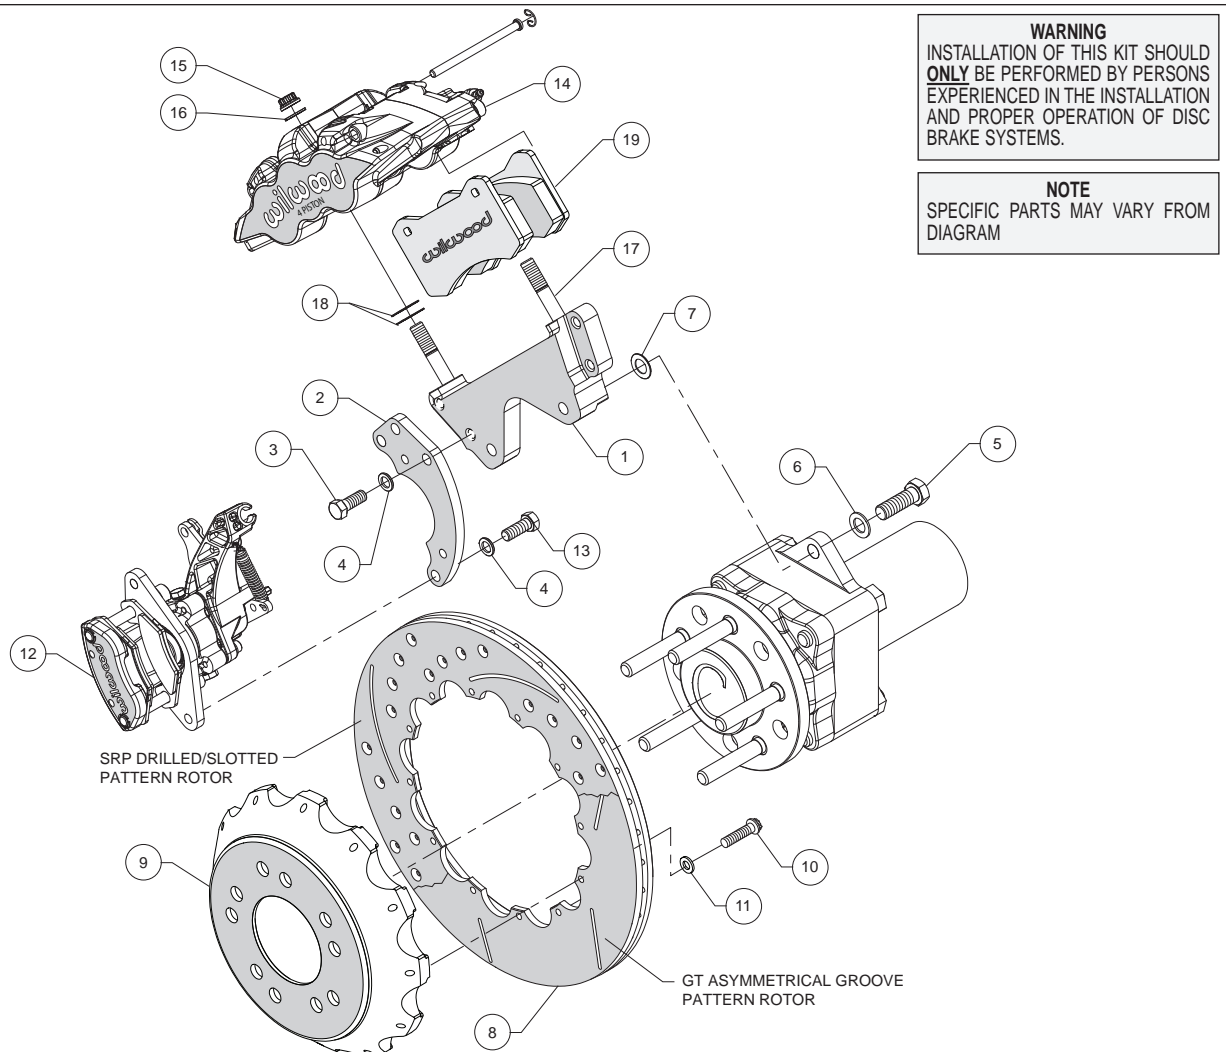
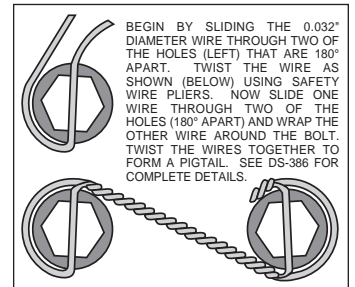

Figure 1. Typical Installation Configuration
Figure 3. Safety Wire Diagram
**Assembly Instructions** (numbers in parenthesis refer to the parts list and Figure 1 on the preceding pages):
- Attach the MC4 flat caliper bracket (2) to the radial mount caliper bracket (1) using bolts (3) and washers (4) as shown in Figure 1 and Photo 1. Apply red *Loctite*® 271 to the bolt threads and torque to 35 ft-lbs. **NOTE:** *The MC4 Bracket may be mounted on either end of the radial mount bracket.*
- The caliper mount bracket assembly (1/2) should initially be installed with clean, dry threads on the mounting bolts. Orient the bracket assembly as shown in Figure 1, and Photo 2, and install using bolts (5) and washers (6). Initially place one .032" thick shim (7) on each bolt between the bracket and axle hub, Figure 1. Temporarily tighten the mounting bolts. **NOTE:** *The bracket must fit squarely against the mount bosses on the axle hub.* Inspect for interference from casting irregularities, machining ridges, burrs, etc. Later, after the caliper alignment has been checked, the mount bolts will be secured using red *Loctite*® 271.
- Orient the rotor (8) and the hat (9) as shown in Figure 1 and Photo 3. Attach rotor to hat using bolts (10) and washers (11). Using an alternating sequence, apply red *Loctite*® 271 to the threads, and torque to 155 **in-lbs**. For an added measure of security, the bolts may be safety wired using standard 0.032 inch diameter stainless steel safety wire as shown in Figure 3. Please refer to Wilwood's data sheet DS-386 (available at [www.wilwood.com/Pdf/DataSheets/ds386.pdf](http://www.wilwood.com/Pdf/DataSheets/ds386.pdf)) for complete safety wire installation instructions.
- Lubricate the caliper mounting studs (17) with lightweight oil. Initially place two .030" thick shims (18) on each stud as shown in Figure 1 and Photo 5. Mount the caliper (14) onto the bracket (1) using lock nuts (15) and washers (16), Figure 1. Temporarily tighten the lock nuts and view the rotor through the top opening of the caliper. The rotor should be centered in the caliper, Photo 6. If not, adjust by adding or subtracting shims (7) between the bracket (1) and the mounting bosses. Always use the same amount of shims on each of the two mounting bolts. Once the caliper alignment is correct, remove the bracket mounting bolts (5) one at a time, apply red *Loctite*® 271 to the threads, and torque to 77 ft-lb.
- Remove the two pad retaining pins from the caliper (14) by carefully popping out the pin retaining clips and sliding out the pins. Insert the brake pads (19) into the caliper from the bottom, Figure 1 and Photo 7. With the friction material facing the rotor, secure the brake pads in place with the pad retaining pins and clips, Photo 8. Reinstall the caliper onto the caliper mounting bracket and temporarily tighten the lock nuts. Check that the top of the brake pad is flush with the outside diameter of the rotor,
- Mount the parking brake caliper (12) onto the lower section of the caliper mounting bracket assembly (1/2) using bolts (13) and washers (4), as shown in Figure 1 and Photo 10. Apply red *Loctite*® 271 to bolt threads, and torque to 30 ft-lb.